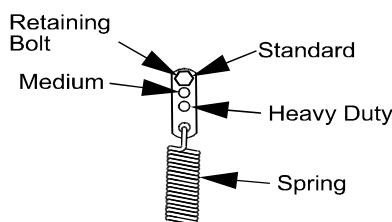

FIG. 18
- b) For a heavier drive setting, relocate the spring anchor links to either the "medium" or "heavy duty" positions as shown in Figure 18. The spring anchor links are attached to the upper rear corner of the hydro drive shields on the left and right hand sides of the machine.